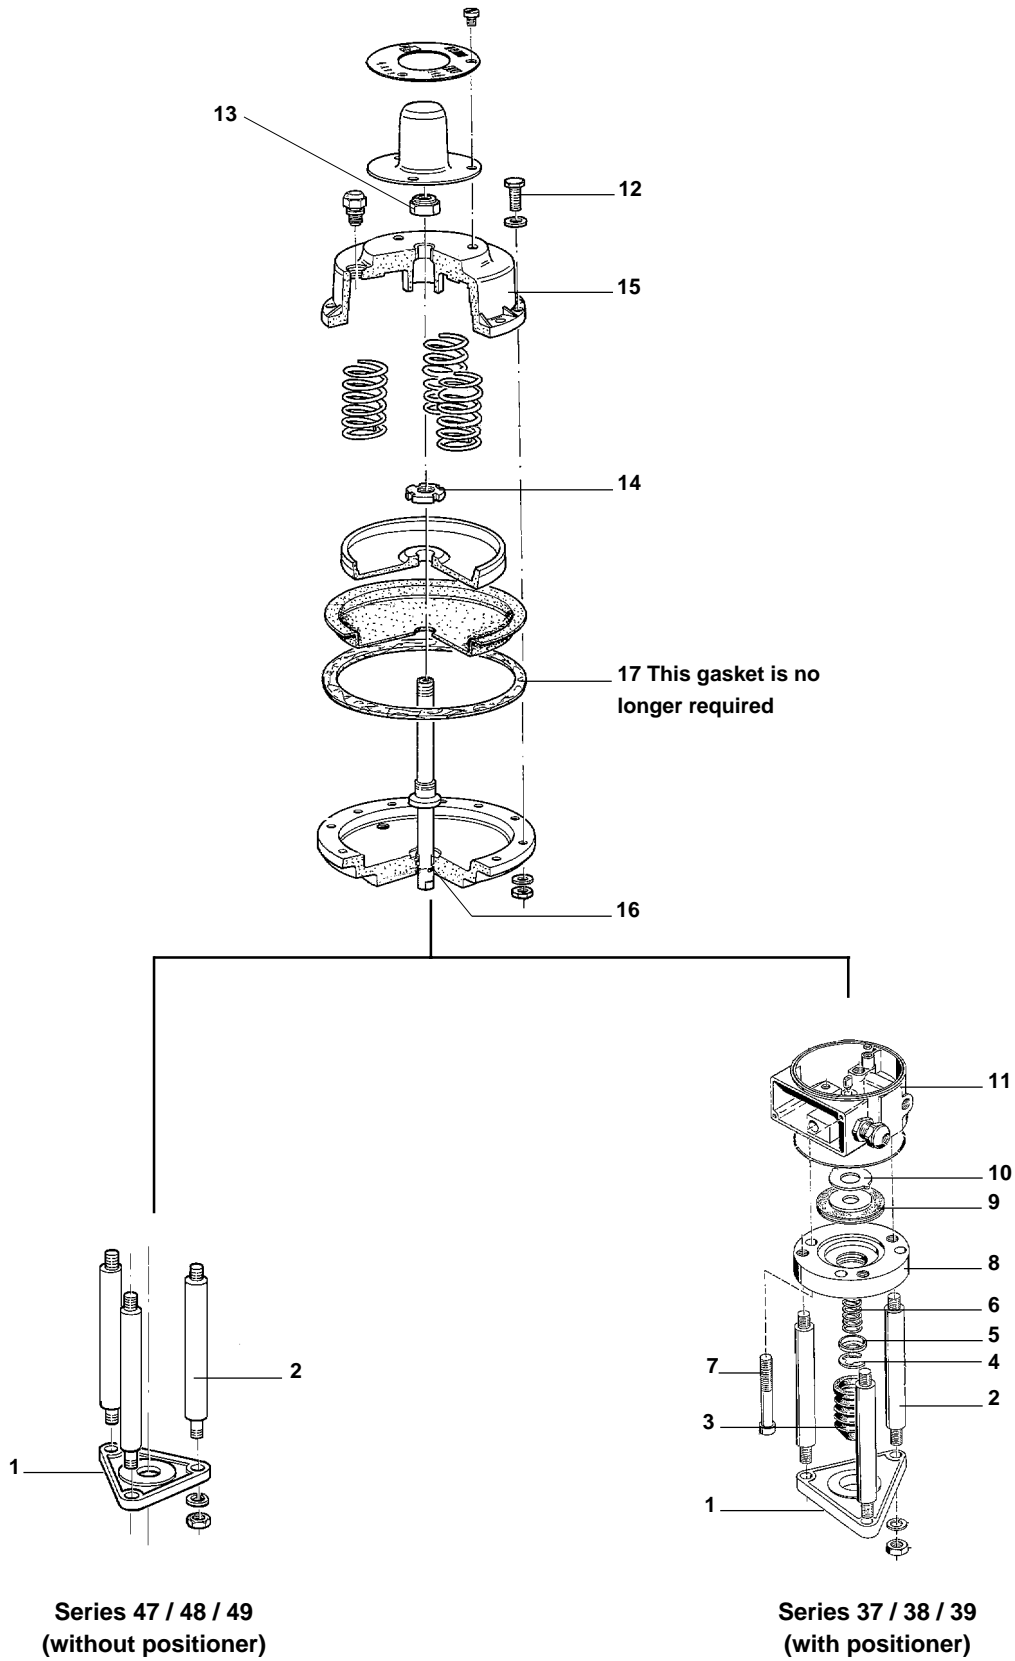

Fig. 9
(refer to fig. 9)
2.3.2 Actuators without adjustable positioner spring (see Fig. 9)
(refer to figs. 9 to 13)
- 2.4.11 Actuator without adjustable positioner spring** (see Fig 9)
Install the positioner cover (8), positioner cover screws (7), positioner spring (6), seating ring (5), retaining ring (4), and positioner spring boot (3) (see Fig. 9).